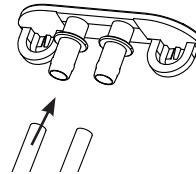

Figure 6
- Once draining is complete, reconnect both tubes to the gray plastic tube plug (Figure 6)
6. Once rinsing is complete, reconnect the drain tubes to the drain plug (Figure 6), or if you have a side tank, reconnect the unlabeled tube to the drain plug, and Tube B to the Side Tank base (Figure 4).